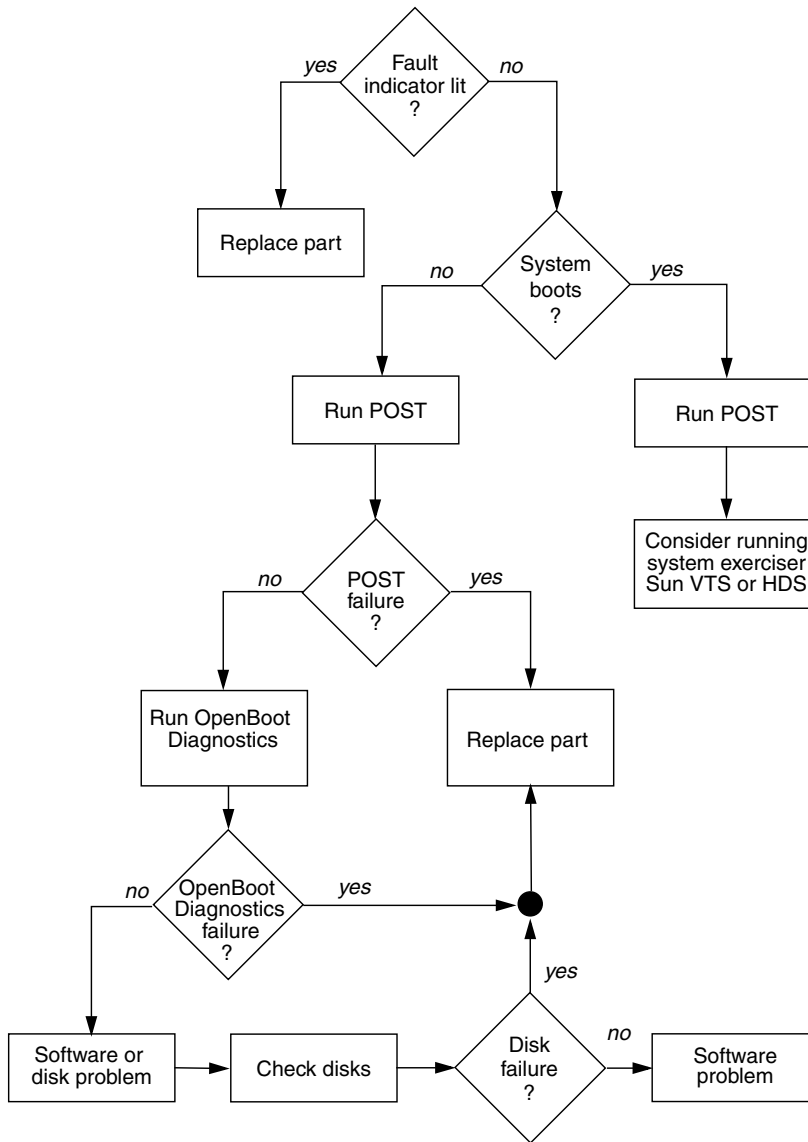

FIGURE 1-1 Choosing a Tool to Isolate Hardware Faults
- If the server *can* boot, you should use a more comprehensive tool. The typical fault isolation process is illustrated in FIGURE 1-1.
If POST diagnostics do not uncover a fault, and the server still does not start up, run OpenBoot Diagnostics tests. See FIGURE 1-1 for additional information.